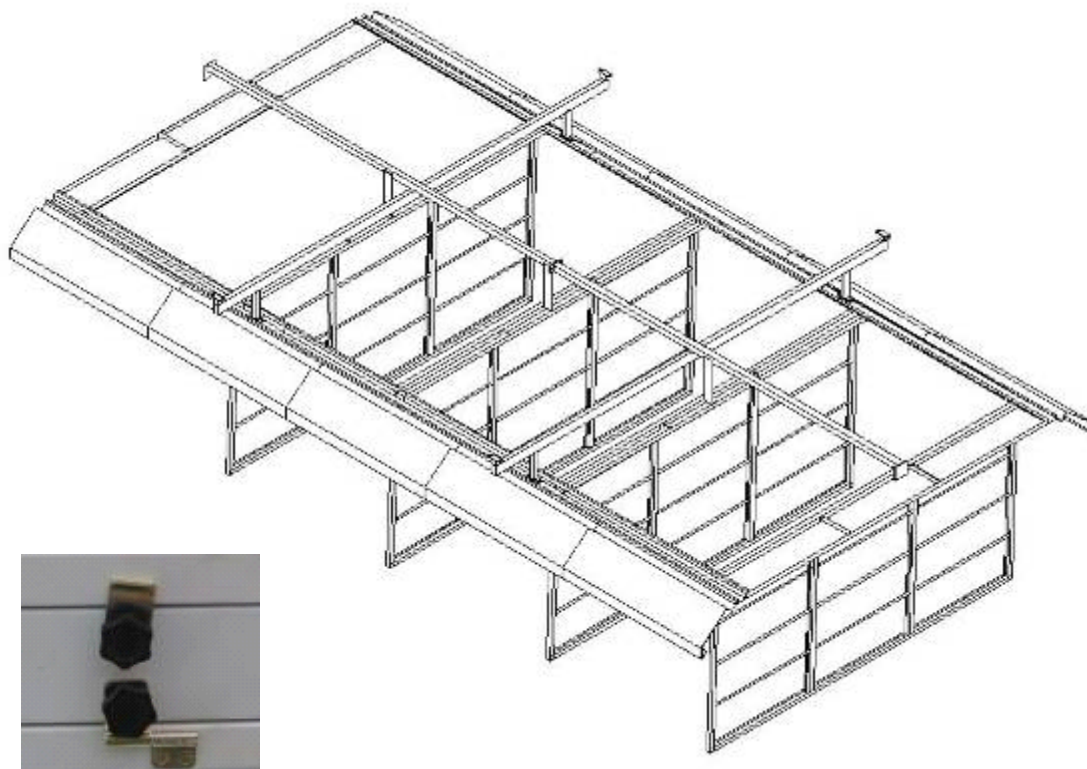

Fig. 3.17
5. Filter frame installation shown in Fig.3.17. Fix the filter on the frame with frame slot first,then installate the filter frame with the hinge.